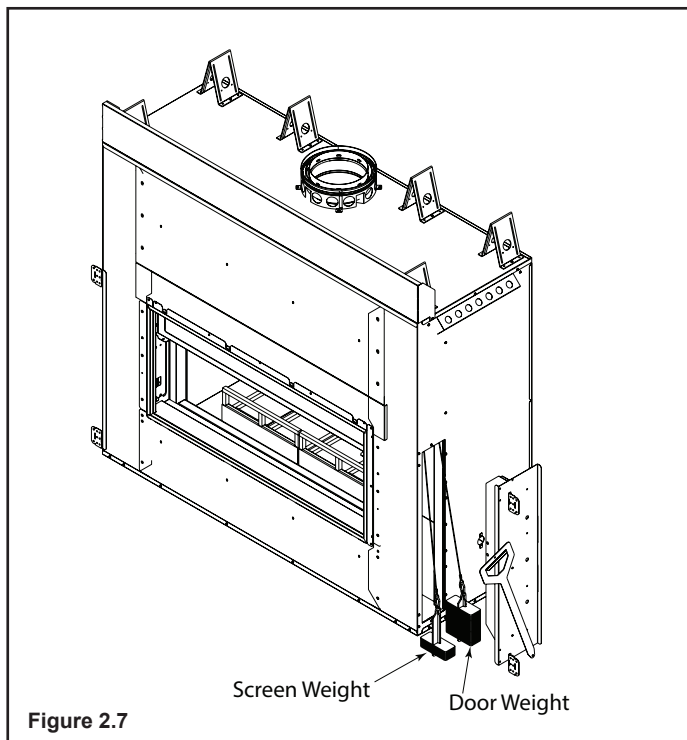

Figure 2.7
- k. Repeat for the other side. See Figure 2.7.